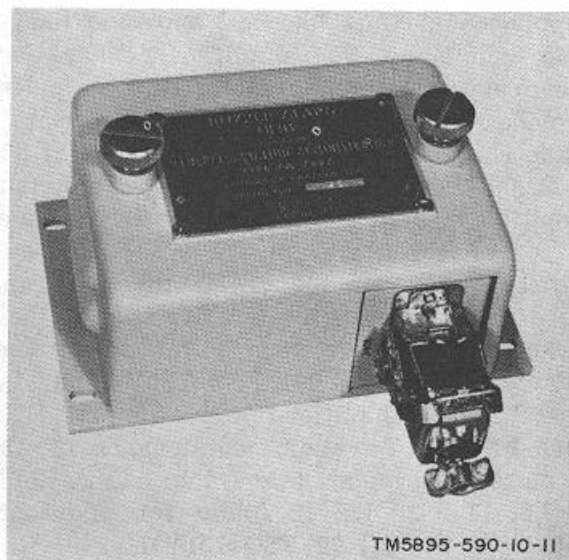

Figure 1-11. Buzzer BZ-166/FSQ-75(V).
(8) *Buzzer BZ-166/FSQ-75(V)* (fig. 1-11). The buzzer alarm consists of a buzzer, a